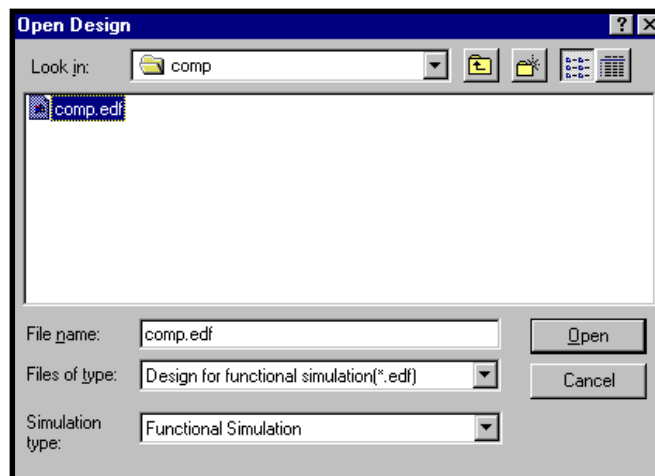

Figure 2-5. Open Design Dialog Box
2. Select **File** ⇒ **Open Design** from the Simulator Control Panel window. The Open Design dialog box displays (Figure 2-5).